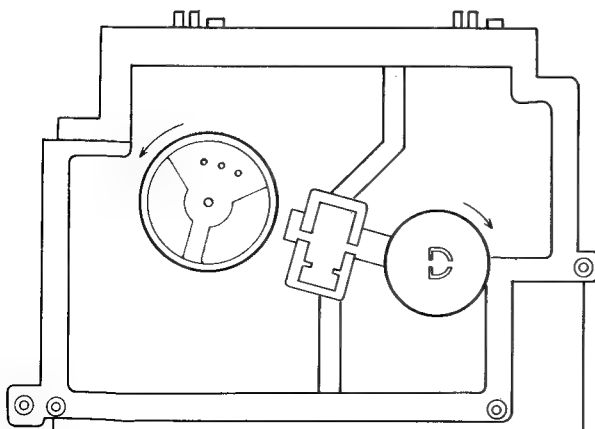

Fig. 40
- Turn the left dial drum mounted on the variable capacitor fully counterclockwise and the right drum clockwise (refer to Fig. 40).